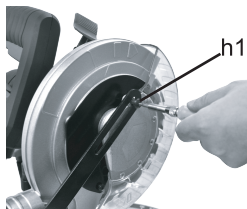

Fig.18
1.Release the screw (h1) to remove the guard retraction arm (6).(Fig. 18)